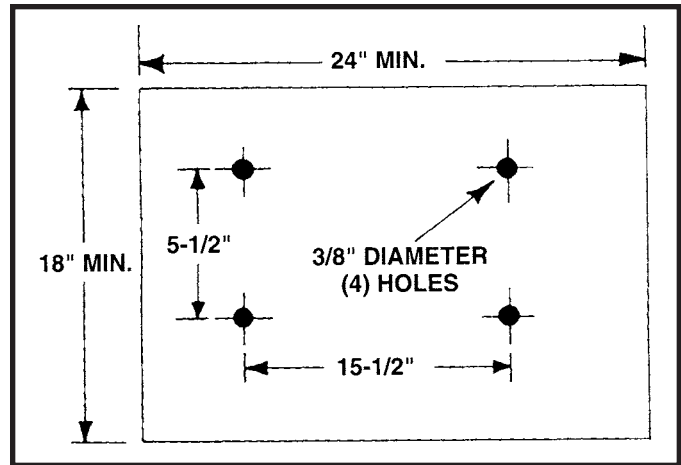

Fig. 17
3. An alternate method of securing the sander to a supporting surface is to fasten the sander base to a mounting board 18" x 24" minimum size. The diagram, shown in Fig. 17, illustrates the size and center to center distance of the holes to be drilled in the mounting board.